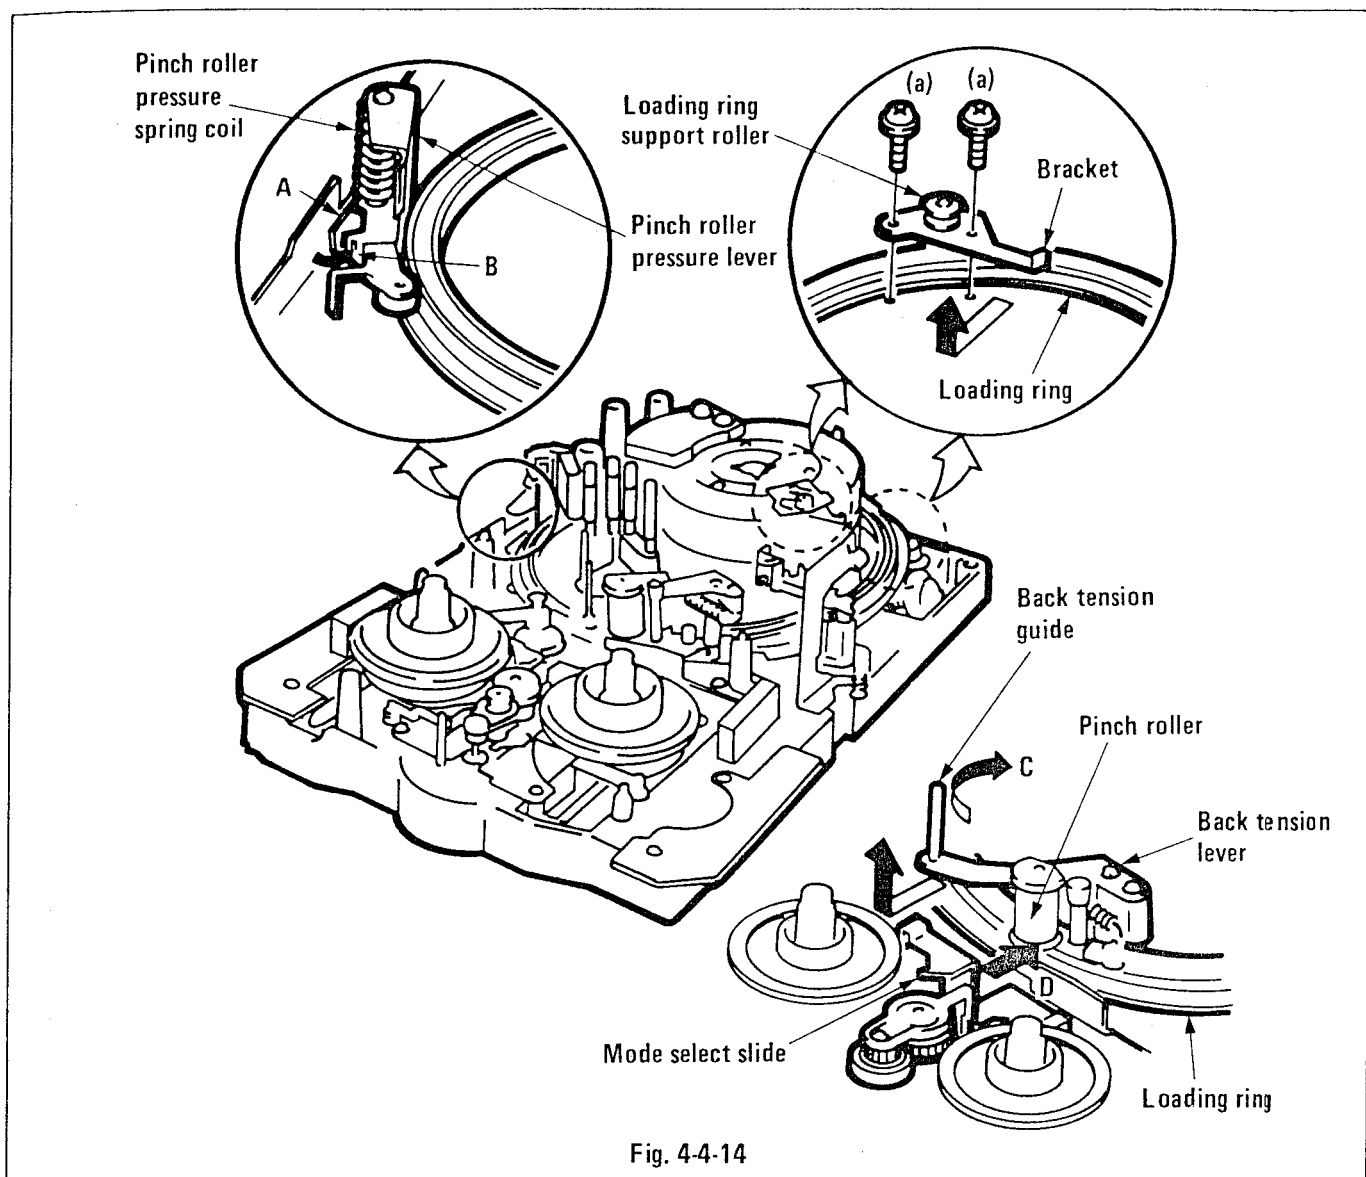

Fig. 4-4-14
- (7) Install the loading motor by using the reverse order of the removal procedure.
14. LOADING RING (See Fig. 4-4-14.)